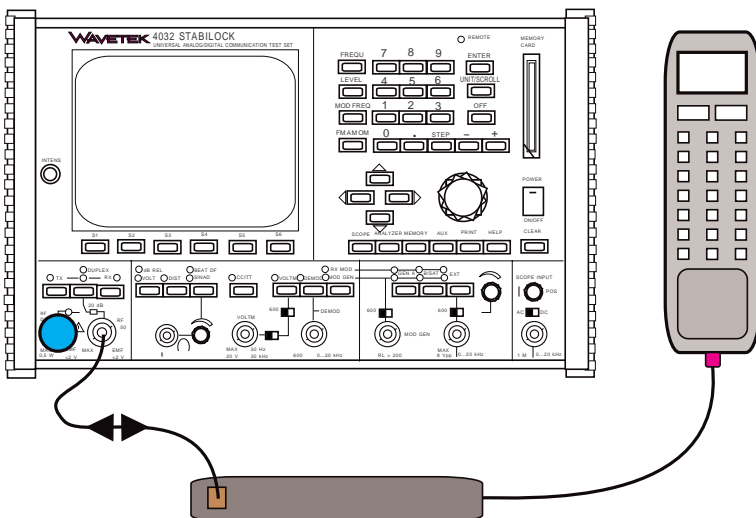

Fig. 10.1: Test setup.
Connect the test item (MS) via the RF socket (N-type) to STABILOCK (see Fig. 10.1).